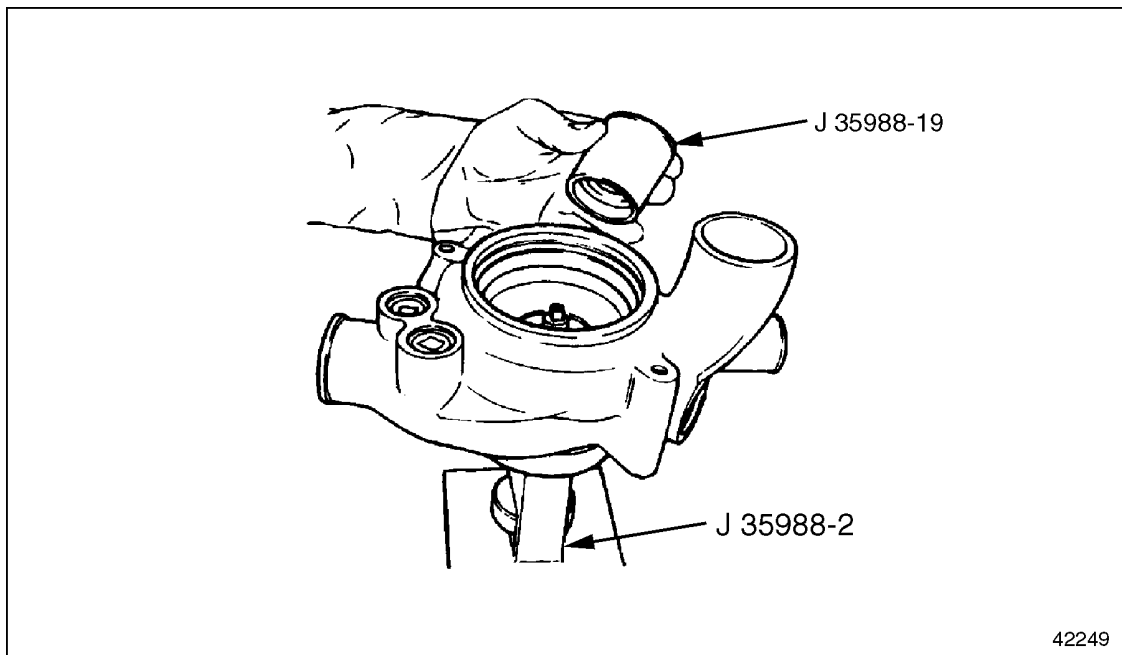

Figure 4-25 Water Seal Installation
17. Position seal installer J 35988-19, part of tool set J 35988-D over the water seal. See Figure 4-25.